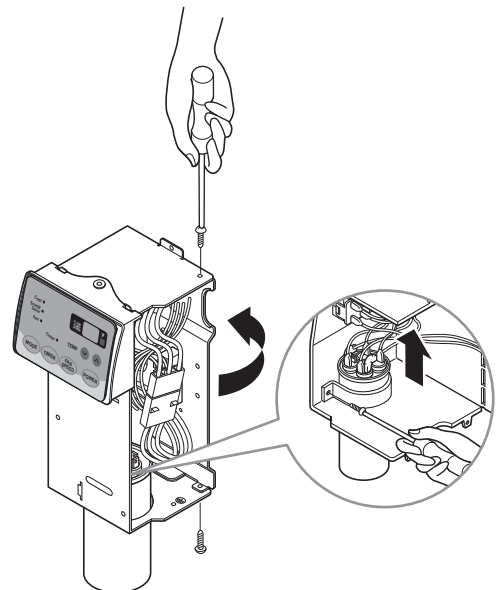

FIG. 12
3. Remove 2 screws and unfold the control box. (See Fig. 12)
4. Remove the screw and the clamp which fastens the capacitor. (See Fig. 12)